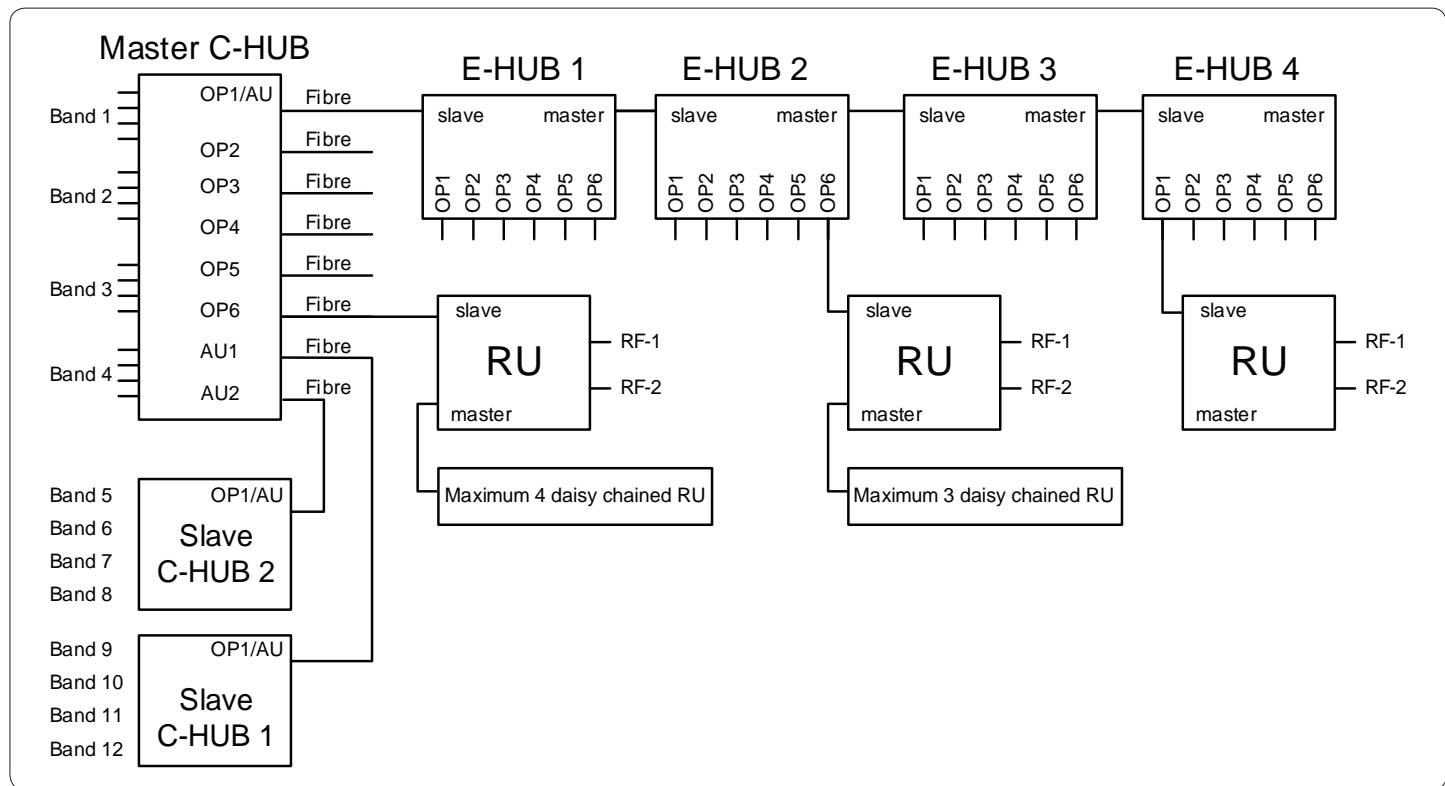

Fig. 2: Networking layout
K-BOW enables different networking layouts as shown in Fig. 2. The following applies:
- In smaller systems, the C-hub and RU can be directly connected without the E-hub, as shown in Fig. 2.